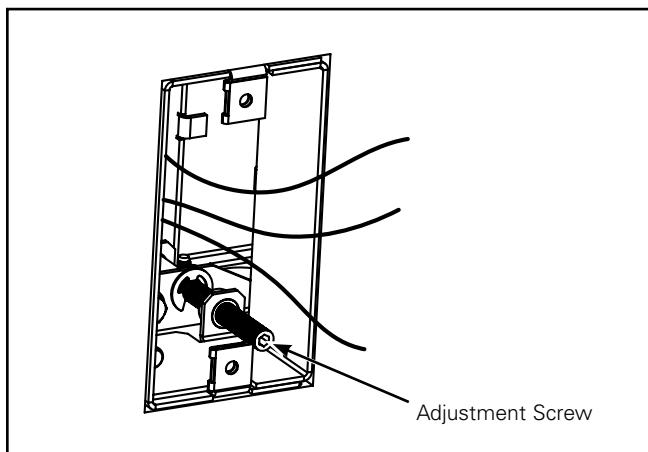

Figure 4.
4. Install sheet rock or other wall material and adjust the depth of the j-box by turning the adjustment screw using a 1/8" hex allen wrench (not supplied) (Figure 4).